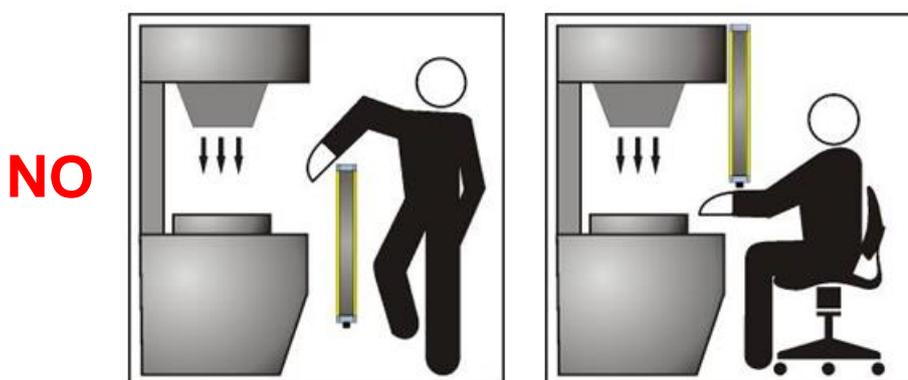
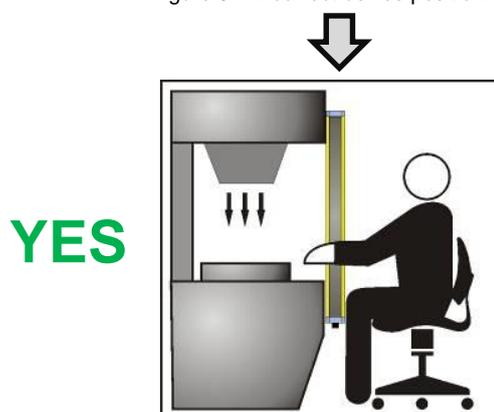

Figure 5 – Incorrect device positioning
Figure 6 – Correct device positioning
**Warning!** Figure 5 shows some examples of possible access to the machine from the top and the bottom sides. These situations can be very hazardous and the AOPD must be installed at a correct height in order to completely cover the access to the hazard zone (Figure 6).